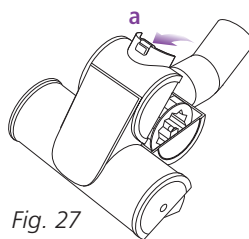

Fig. 27
- 1 Slide the locking latch **(a)** forward and gently tilt brush housing upward to open. **(Fig. 27)**